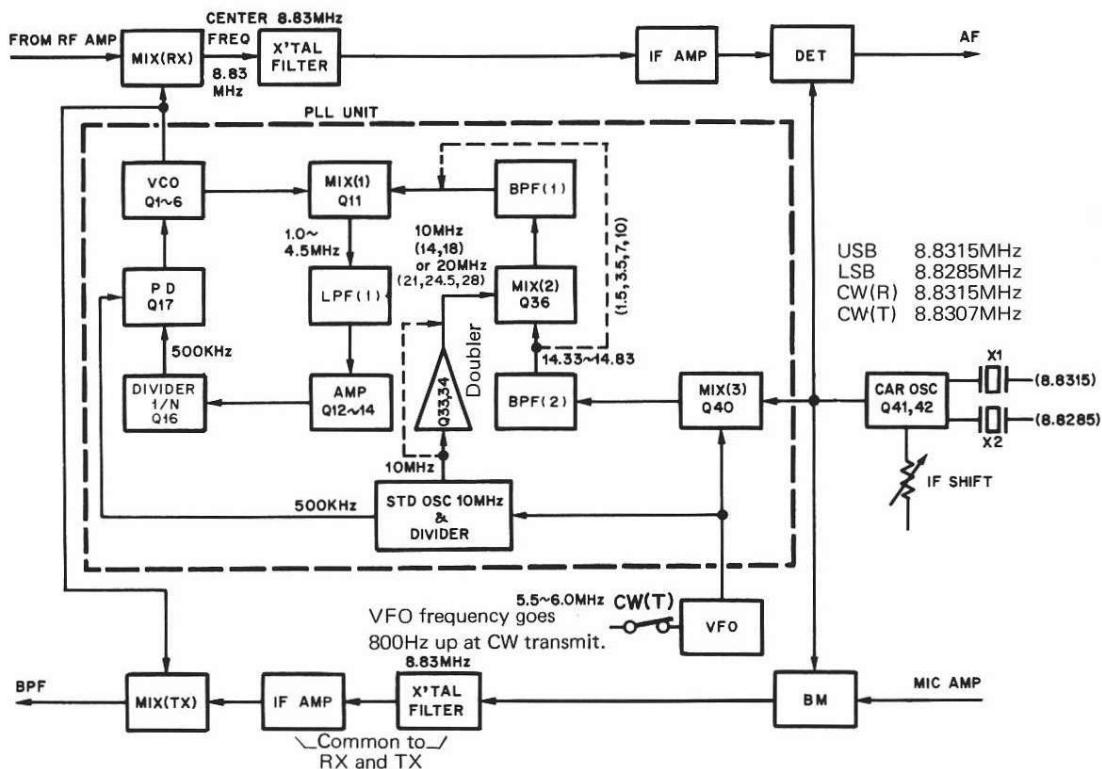
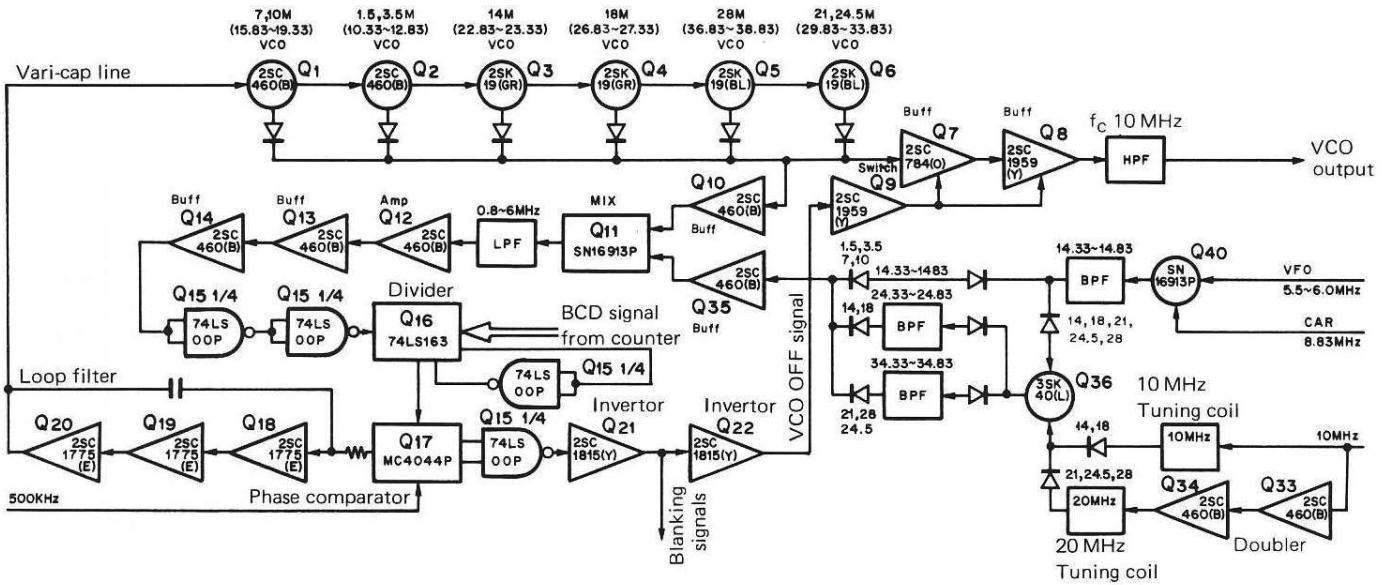

Fig. 1 TS-530 Frequency configuration
Fig. 2 TS-530 PLL circuit configuration
Frequency organization of the PLL circuit is shown in Fig. 1, the circuit diagram in Fig. 2, and frequency organization in other circuits is summarized in Table 4. Please refer to Fig. 1 when reading the following description of PLL circuit operation. MIX (3), a double balanced mixer, mixes the CAR output with the VFO output. MIX (2), which operates for the 18 MHz band and above, mixes either 10 MHz, in the 14 and 18 MHz bands, or 20 MHz, in the 21, 24.5 and 28 MHz bands, with the output of MIX (3) to generate the appropriate frequency needed for each band, as shown in Table 4.
The CAR oscillator consists of a crystal controlled oscillator which uses two crystals : one for LSB and the other for USB and CW . Frequencies generated are shown in **Fig. 1**. The oscillating frequency can be varied by the IF SHIFT control during reception.